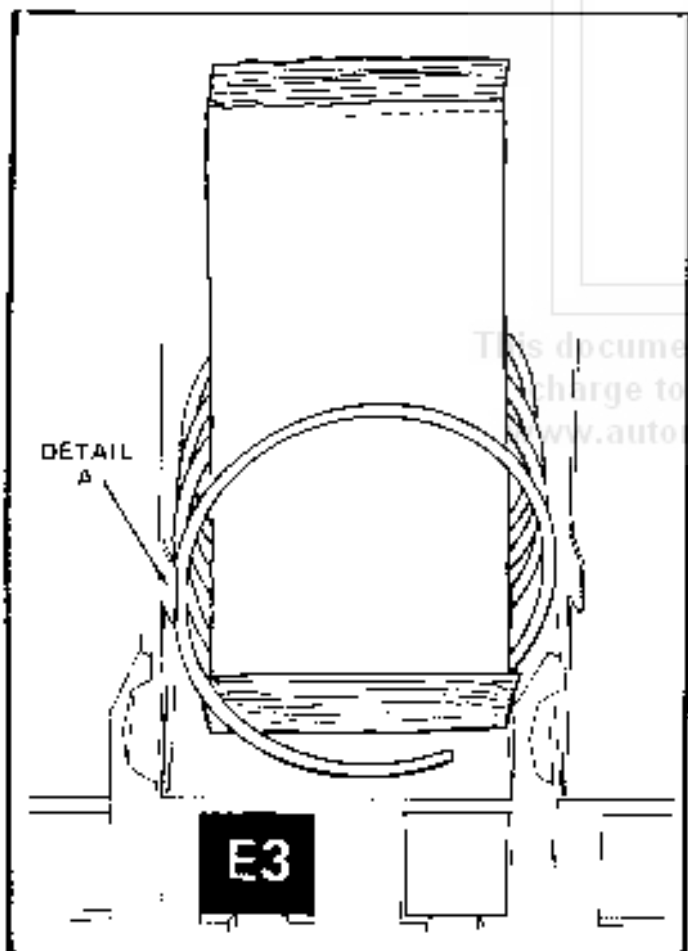

Figure 5. PLACEMENT OF PRODUCT ON MAIN PRODUCT CANDY SHELVES AND FRONT END POSITION OF SPIRAL.
7. **LOADING MAIN PRODUCT CANDY SHELVES:** The 10-selection (candy type) shelves are loaded similar to the 5-selection shelves except that the bottom of the product sits on the shelf in front of the spiral wire (see Figure 5) that rests on the shelf. These products must also fit properly in the spiral space; do not force product into spiral.
These spacers are removed and installed the same as the large spiral (see Figure 5), except that the front end position is different (approximately 5 o'clock) (see Figure 5) and the front left side of the spiral must be behind the small tab located on the left side of the product space side wall (see Figure 5, Detail A).